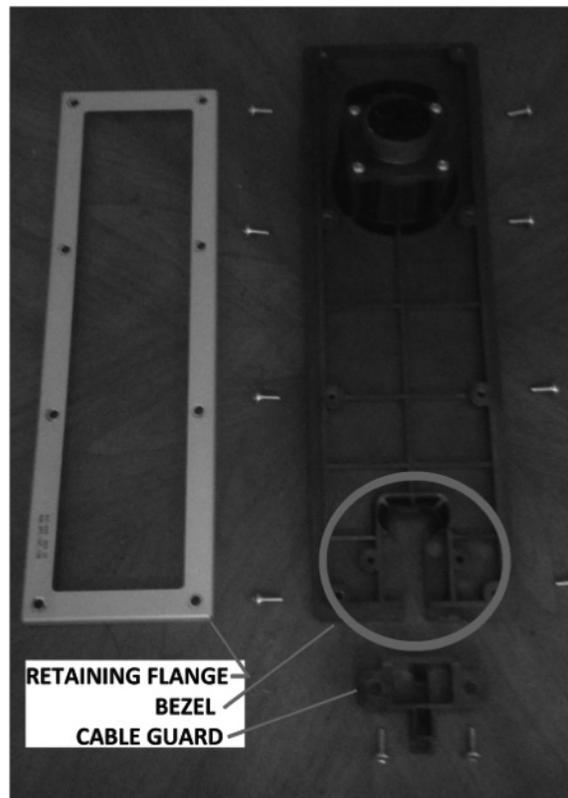

Figure 17 – Front Bezel Disassembled
4. Remove the 2 Phillips-head screws attaching the lower cable guard to the bezel. Retain the screws for later re-installation. Remove the cable guard from the bezel (see Figure 17).
11. Reinstall the lower cable guard into the bezel. Reinstall the 2 Phillips-head screws attaching the lower cable guard to the bezel. Torque screws to 10 in-lbs. Do not over-tighten screws or you may damage the plastic! (See Figure 17, page 18)